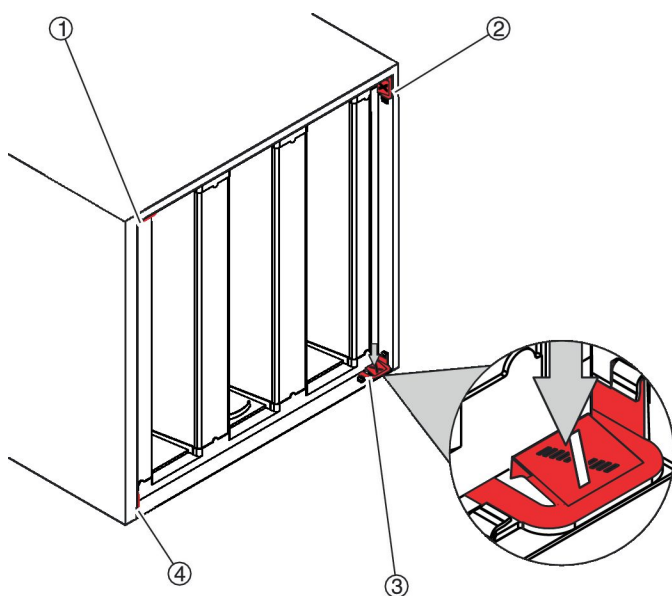

Fig. 53: Loosening the quick release fasteners
3. Press down the quick release fasteners (Fig. 53 /1 to 4).